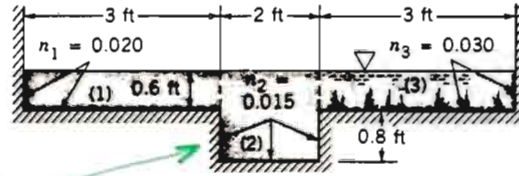

FIGURE E10.7
Water flows along the drainage canal having the properties shown in Fig. E10.7. If the bottom slope is  $S_0 = 1 \text{ ft}/500 \text{ ft} = 0.002$ , estimate the flowrate.
We divide the cross section into three subsections as is indicated in Fig. E10.7 and write the flowrate as  $Q = Q_1 + Q_2 + Q_3$ , where for each section
portions of the perimeters between sections (denoted by the dashed lines in Fig. E10.7) are not included in the  $P_i$ . That is, for section (2)